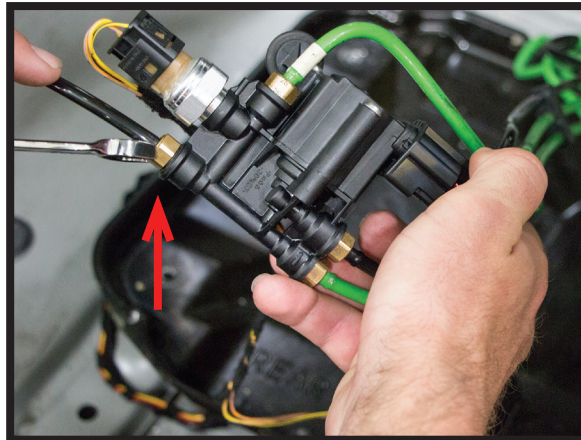

FIGURE 9
5. REMOVE THE AIR LINE AND FITTING (LOCATED NEXT TO THE PRESSURE SENSOR) FROM THE VALVE BLOCK.(FIGURE 9)